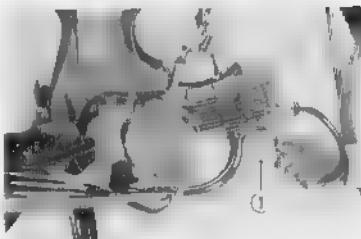

Fig. 5.1 Measuring compression pressure
- Insert the end of the compression gauge into the spark plug hole and hold firmly to prevent pressure from leaking. [Fig. 5.1.]